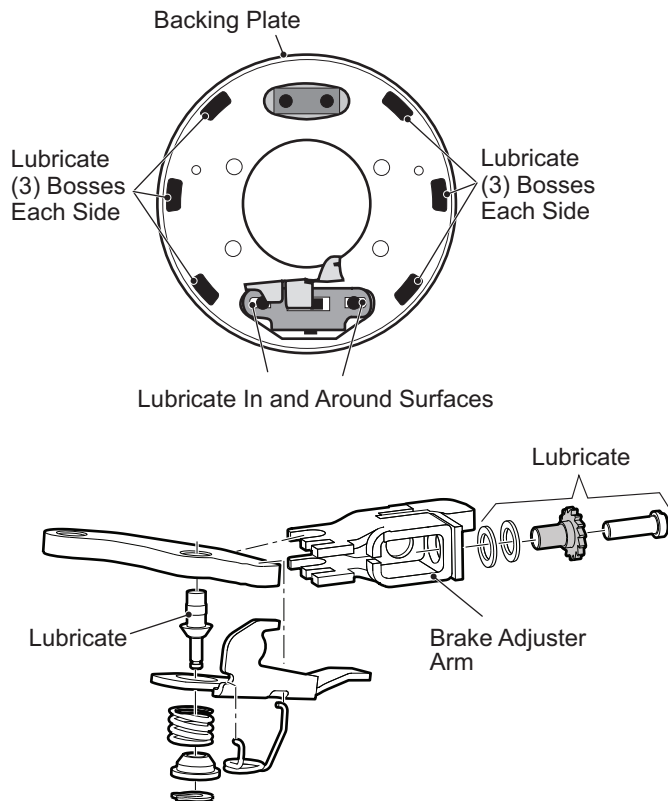

Figure 21 Wheel Brake Lubrication Points
5. Lubricate the backing plate friction points of the shoes and surfaces with Multi Purpose Grease (MPG) lubricant (Figure 21).
6. Clean backing plate with a commercial brake cleaner. Allow to dry completely. Lubricate friction points of shoes and moving anchor with Multi Purpose Grease (MPG) lubricant (Figure 21).